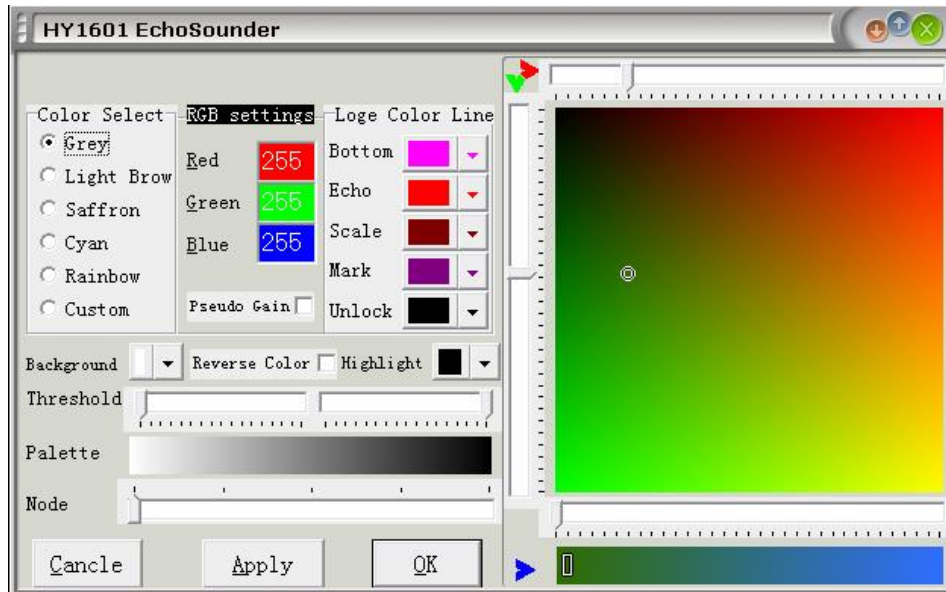

Fig. 5-3 Dialogue box for setting color
**Image Color** – By clicking it, a dialogue box for setting color is presented and echo display color is then selected as shown in Fig. 5-3.